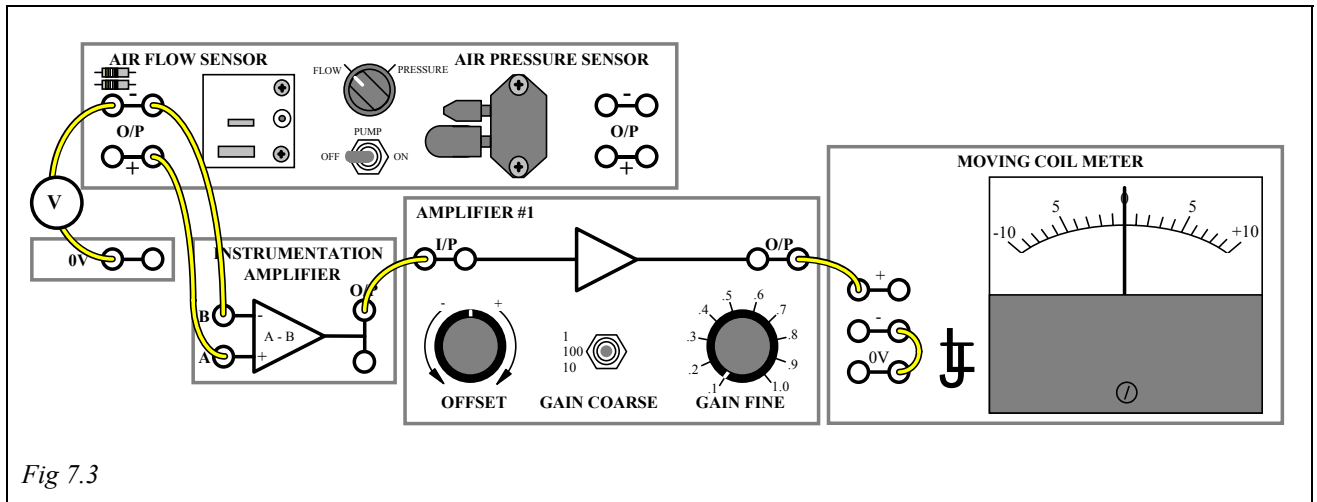

Fig 7.3
- Connect the circuit as shown in Fig 7.3 and set the GAIN COARSE control of Amplifier #1 to 10 and GAIN FINE control to 1.0. Check that the pump control is set to OFF.